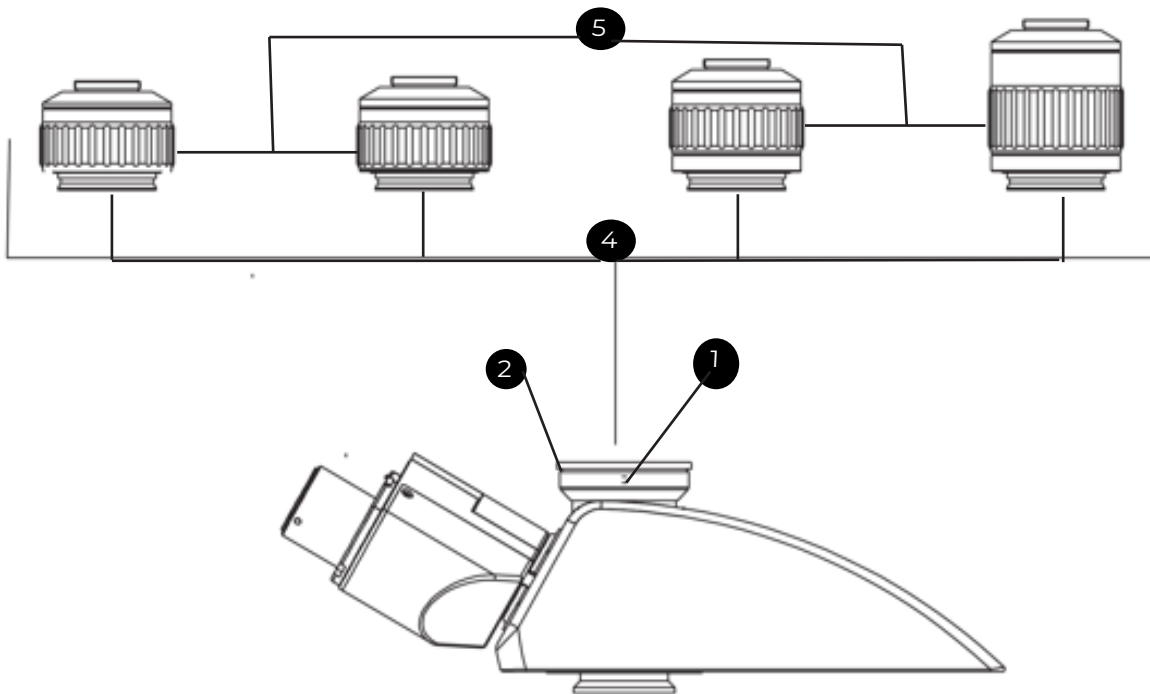

Fig. 5
1. Loosen the lock-screw **1** on the trinocular head and remove the dust-cap **2** from the photo port (See Fig. 5).
5. If the image is not in focus, rotate the focus adjustment **5** until it is in focus (See Fig. 5).